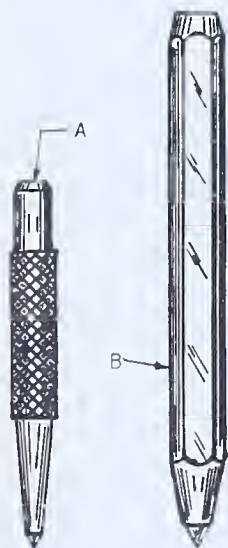

FIG. 27 —
Both types of punches are shown in Fig. 27. The prick punch is used for fine layout work. It makes a fine center mark and a light blow with a light hammer is sufficient for the work.
1. When using a center punch (see Fig. 27), one should use a heavier hammer. One blow with a hammer of the right weight is all that is necessary, in most cases. Using a light hammer on a heavy center punch is not permissible.